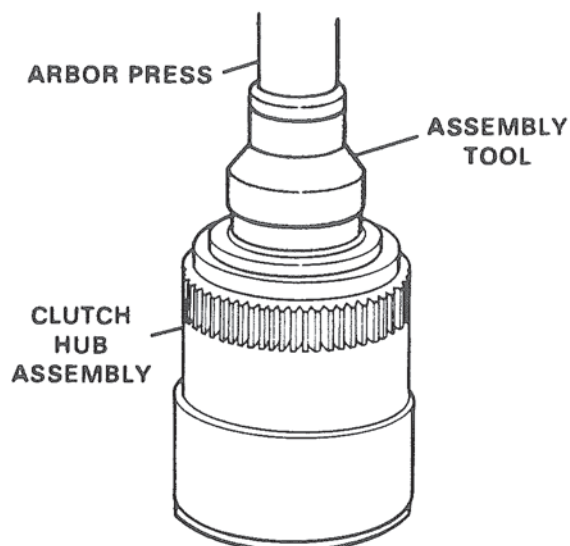

Figure 56. Pressing Forward Clutch Hub into Ring Gear.
11. Place the combined parts on a suitable support on an arbor press. Figure 56. Center the clutch spring in the ring gear.
12. Place clutch sealing ring assembly into the open top of the assembly described in step 11. Figure 56. Place a suitable assembly tool squarely